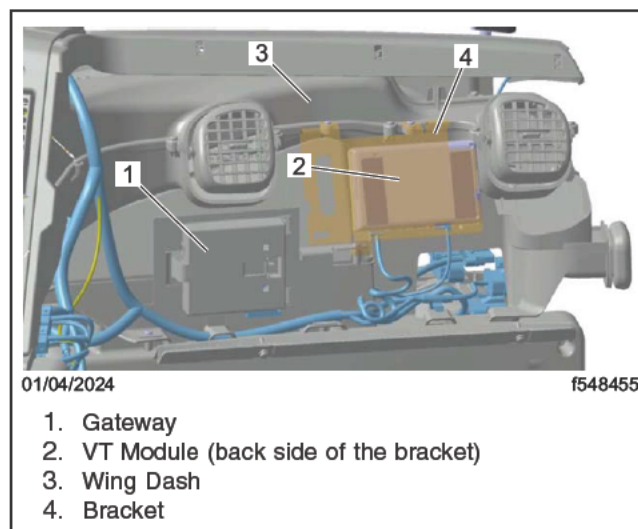

Fig. 20, VT Module Installation on the Back Side of the Bracket
6. Locate the 10-pin and 4-pin electrical connectors, and attach them to the VT module, as shown in Fig. 20.